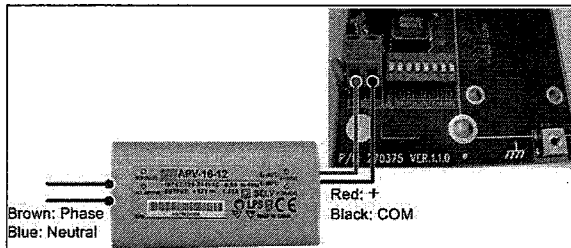

**Figure 11: Antenna Placement**
- c) Option 3: Connect the antenna directly to the unit (Figure 11).